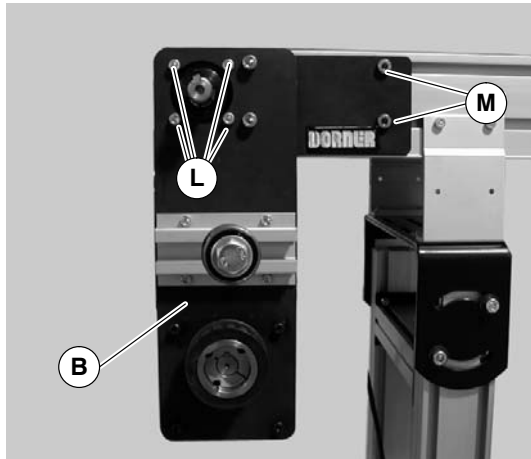

Figure 4
- Attach bottom mount drive assembly (B of Figure 4) with two (2) M8 screws (M) and four (4) M6 screws (L). Tighten M6 screws (L) to 146 in-lbs (16.5 N-m) and M8 screws (M) to 288 in-lbs (32.5 N-m).